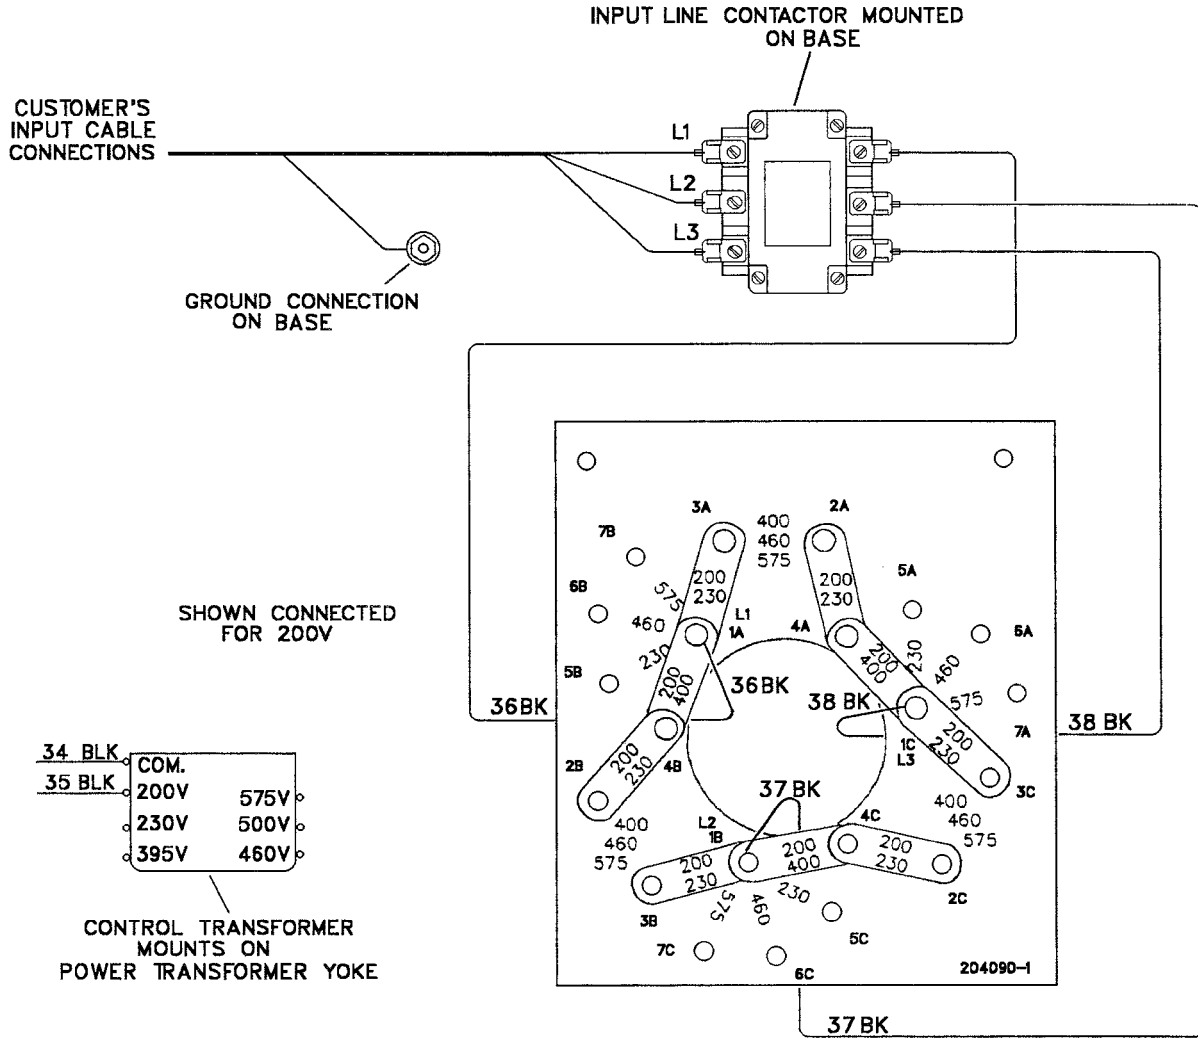

Figure 4-3 Input Voltage Connection & Changeover
1. A line (wall) disconnect switch, with fuses or circuit breakers should be provided at the main power panel (see Figure 4-3). The primary power input must have four insulated copper conductors (three power leads and one ground wire). The wires may be heavy rubber-covered cable or may be run in a solid or flexible conduit. Do not connect the input conductors until step 3.
power supply. The input terminal board, Figure 4-3, is clearly marked to show the available primary voltage connections which may be used. Set the voltage links, on this board, to match your actual incoming voltage. As shipped from the factory, the input terminal board voltage links are set up for the highest line voltage.
3. Thread the input conductor cables from the wall disconnect switch through the hole in the rear panel (see Figure 4-3). Connect the conductors to terminals on the input contactor. Connect the ground wire to the grounding stud provided on the base near the contactor.